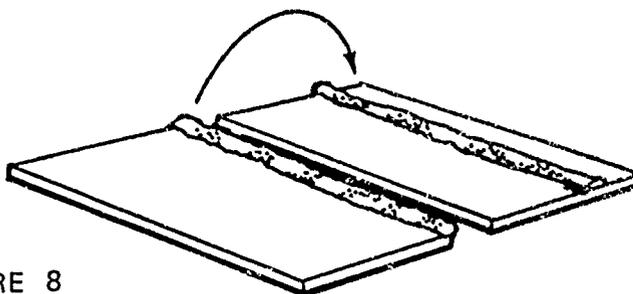

FIGURE 8
- Q. Weld should break uniformly down the center of the weld joint the entire length of the weld (Figure 8)